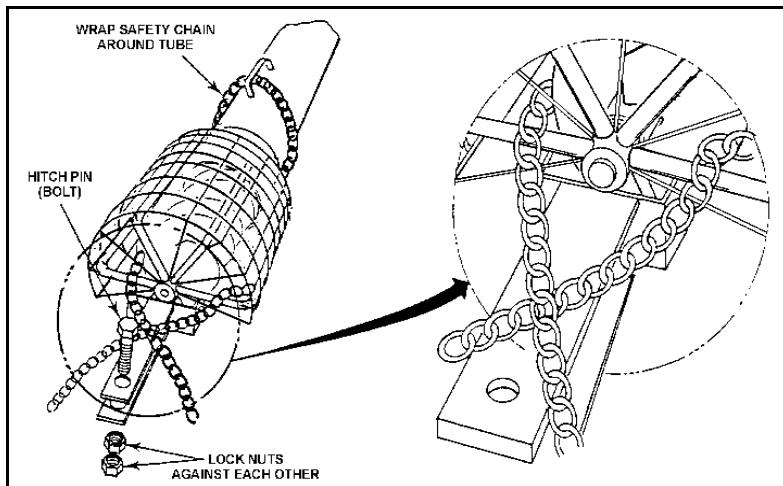

Figure 4.1
3. Place and secure hitch pin and safety chain. Thread safety chain though handle on the lower tube and wrapped around auger tube before attaching to the towing vehicle (Figure 4.1).